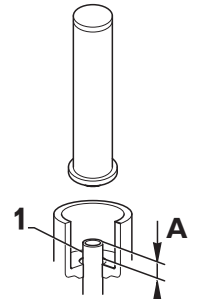

FIG. 4-2c
- Adjust oil suction pipe to measure "A" (A = 26 mm) (Fig. 4-2c).